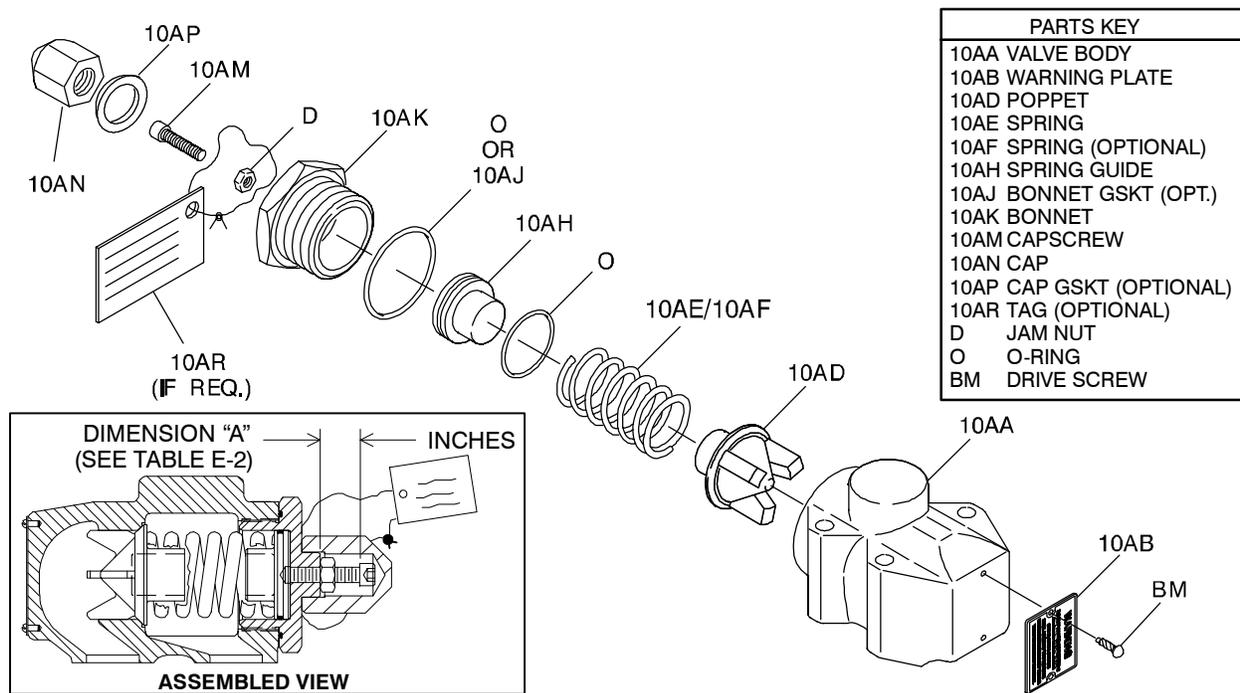

Figure E-7. Pressure Relief Valve Assembly
(Figure E-7)
Install the jam nut (D) on the adjustment cap screw (10AM) and thread the cap screw into the bonnet until the desired height ("A", Figure E-7) is reached. Refer to the separate Parts List accompanying your pump and determine the hydraulic size (D,G,J,N, etc.) and spring option code (STD, 25D, etc.) for your pump. See Table E-2 and adjust the cap screw (10AM) to the proper "A" dimension for the desired cracking pressure.